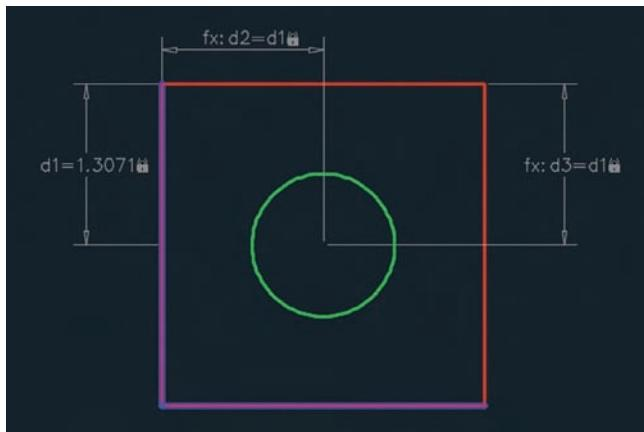

FIGURE 12.7 Adding another linear constraint that is calculated by a function
6. Press the spacebar to repeat the DCLINEAR (for Dimensional Constraint Linear) command. Click the first constraint point in the upper-right corner of the rectangle. Click the circle to accept its center as the second constraint point. Move the cursor to the right and click to place the vertical dimension line to the right of the rectangle. Type **d3=d1** and press Enter. The circle is now centered within the square (see Figure 12.7).